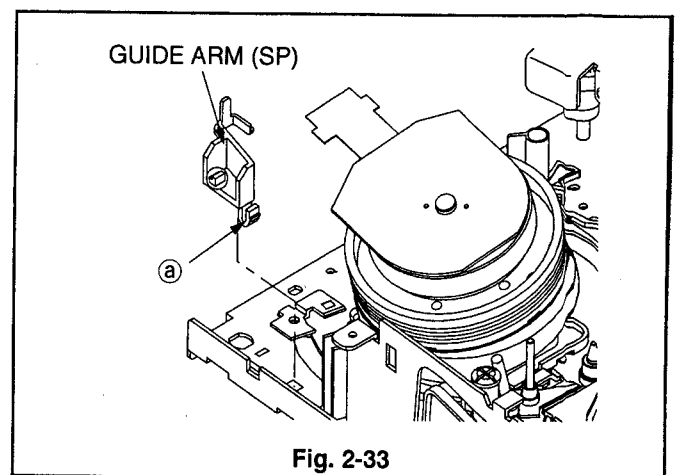

Fig. 2-33
1. Release the catch (a) of the GUIDE ARM (SP) shown in the Fig. 2-33 to remove the GUIDE ARM (SP).
1. Install the GUIDE ARM (SP) shown in the Fig. 2-33.